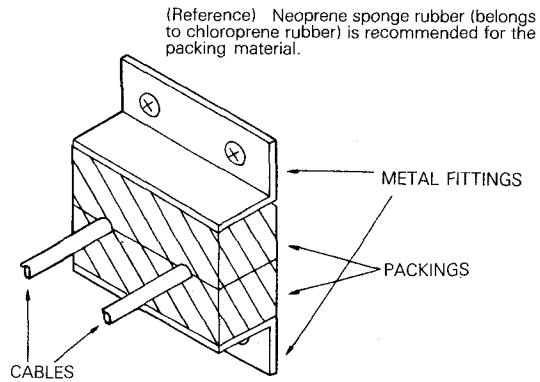

Fig. 4.1 Cable Entrance
- (1) The cabinets should be of totally-enclosed construction.
- (2) Seal the cable openings with packing. (See Fig. 4.1.)